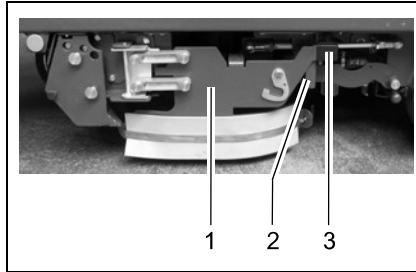

Fig. 5
1. Open the deflector (Fig. 5/1): take hold of the grip (Fig. 5/3), raise the deflector (Fig. 5/1), pivot it forwards and outwards and lower it (service position).
7. Close the deflector (Fig. 5/1): take hold of the grip (Fig. 5/3), raise the deflector (Fig. 5/1), pivot it towards the vehicle and lower it into the deflector lock (Fig. 5/2). The deflector (Fig. 5/1) is now in its working position.